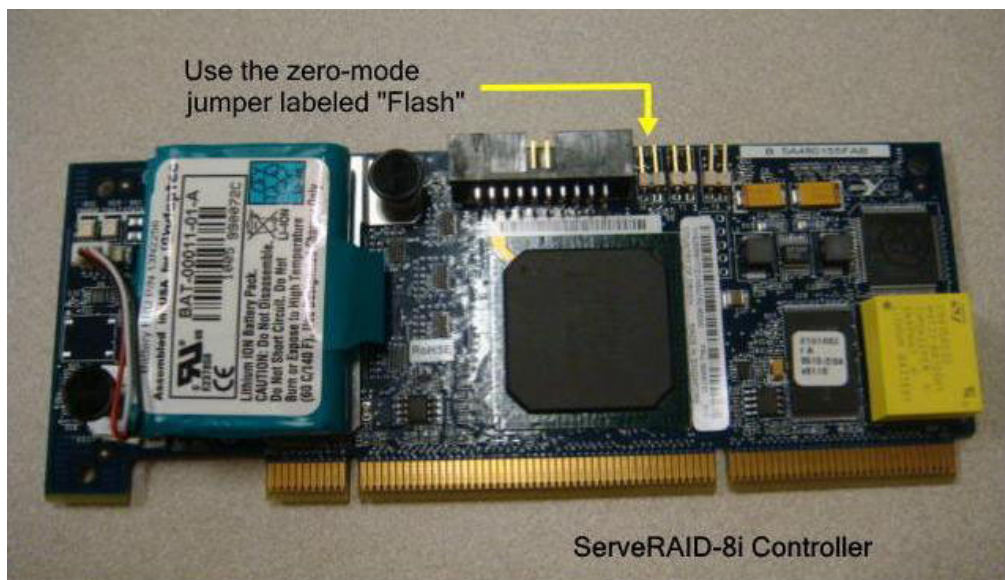

Figure 1. ServeRAID-8i zero-mode flash jumper
5. Locate the flash jumper, which is labeled on the top of the controller as shown in Figure 1.
6. Install the jumper connector across the two pins that are shown in Figure 1.